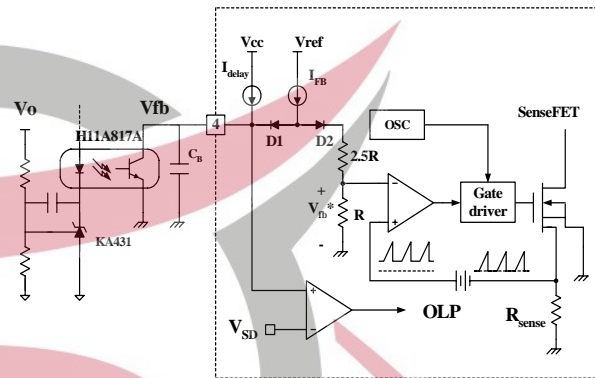

Figure 11. Pulse Width Modulation (PWM) Circuit
**3. Feedback Control:** The FSCQ-Series employs current mode control, as shown in Figure 11. An opto-coupler (such as Fairchild's H11A817A) and shunt regulator (such as Fairchild's KA431) are typically used to implement the feedback network. Comparing the feedback voltage with the voltage across the Rsense resistor plus an offset voltage makes it possible to control the switching duty cycle. When the reference pin voltage of the KA431 exceeds the internal reference voltage of 2.5V, the H11A817A LED current increases, pulling down the feedback voltage and reducing the duty cycle. This event typically happens when the input voltage is increased or the output load is decreased.
**3.1 Pulse-by-Pulse Current Limit:** Because current mode control is employed, the peak current through the SenseFET is limited by the inverting input of the PWM comparator (Vfb\*) as shown in Figure 11. The feedback current (IFB) and internal resistors are designed so that the maximum cathode voltage of diode D2 is about 2.8V, which occurs when all IFB flows through the internal resistors. Since D1 is blocked when the feedback voltage (Vfb) exceeds 2.8V, the maximum voltage of the cathode of D2 is clamped at this voltage, thus clamping Vfb\*. Therefore, the peak value of the current through the SenseFET is limited.